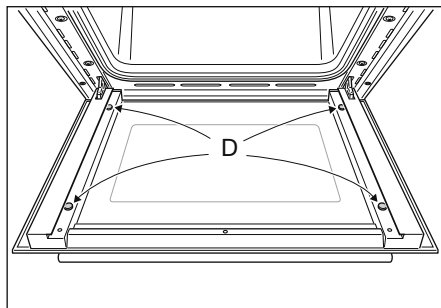

Fig.38a
- Check that the four rubber pads are in place ("D" in Fig. 38a).